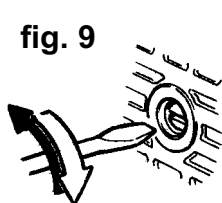

fig. 9
5.3. Lime scale deposits may form during long periods of disuse and cause the motor to seize. To release it insert a screw-driver into the slot on the rear of the motor and rotate by hand (fig. 9). Remove the screw-driver and start the motor as normal.